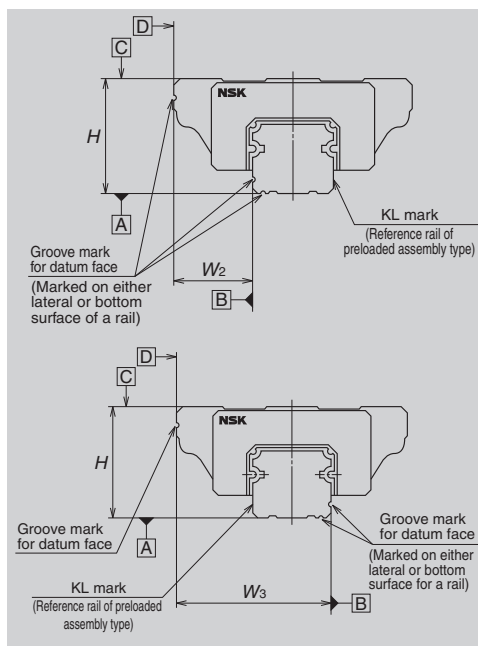
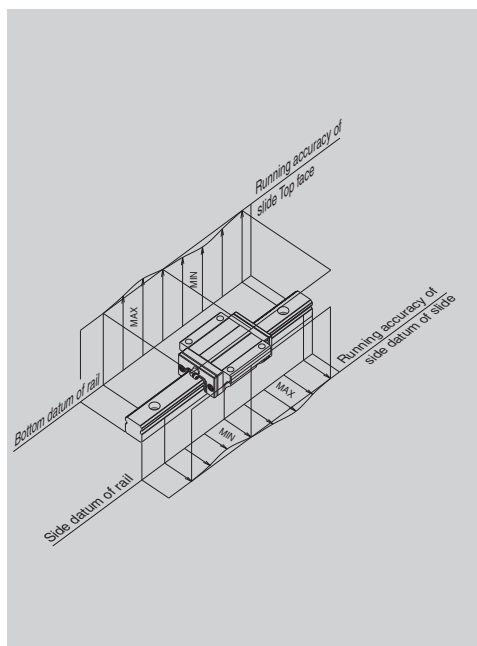

Fig. 4.1 Assembled dimensions
Fig. 4.2 Running parallelism of slide
(2) Definition of Accuracy
• Table 4.1, Figure 4.1 and Figure 4.2 show accuracy characteristics.
Characteristics	Definition (Figures 4.1 and 4.2)